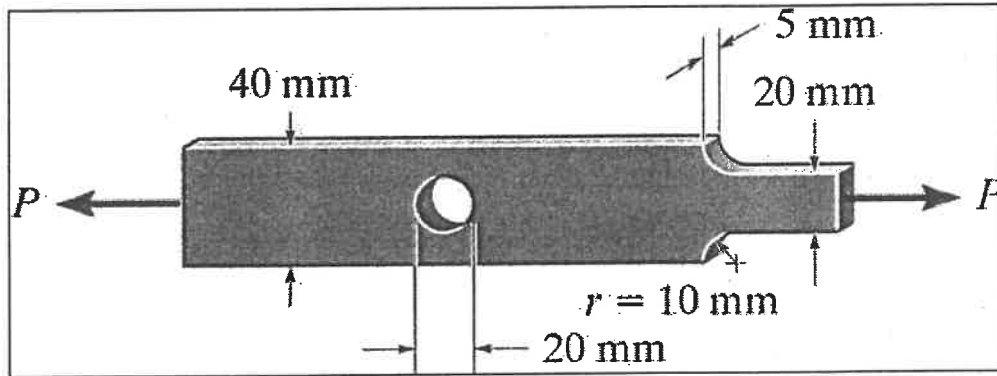

Figure 4
- (a) Figure 4 shows a bar with dimensions in mm subjected to a tension force of $P = 8 \text{ kN}$. Calculate the maximum normal stress developed in the bar. (Refer to *Appendix A*).